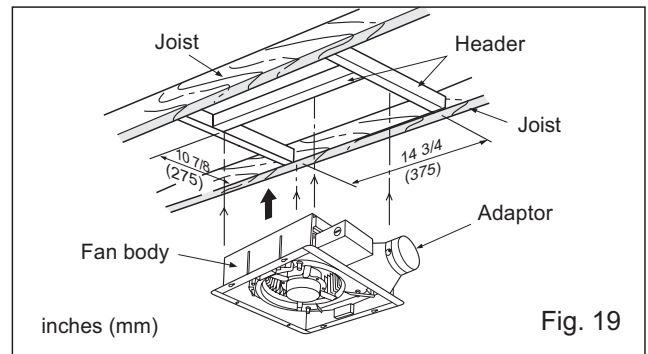
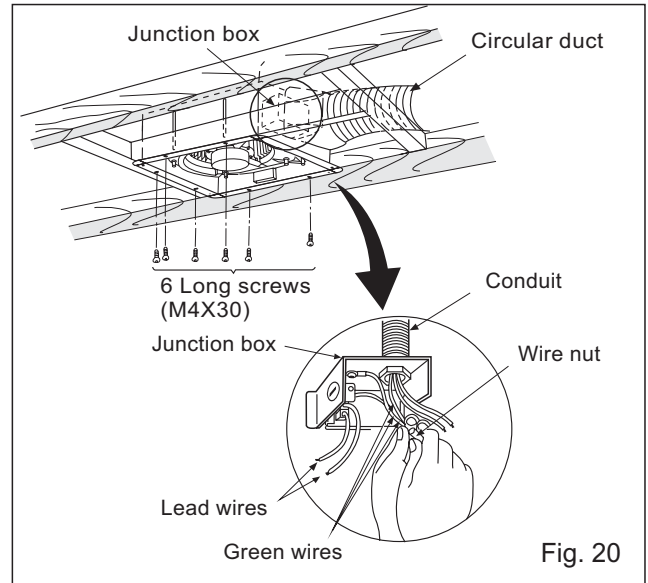

Fig. 19
Fig. 20
3. Install the ventilating fan and secure it by using long screws (M4X30). (Fig. 19, Fig. 20)